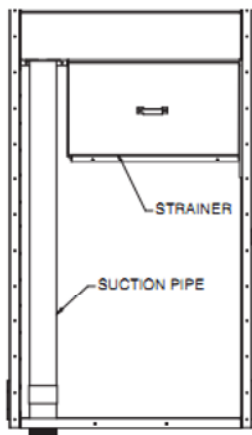

Figure 12a – Strainer Location on 1m and 1.5m Wide Units.
**Strainer** - Check the strainer in the basin to ensure that it is in its proper location over the pump suction as shown in Figures 12a and 12b.